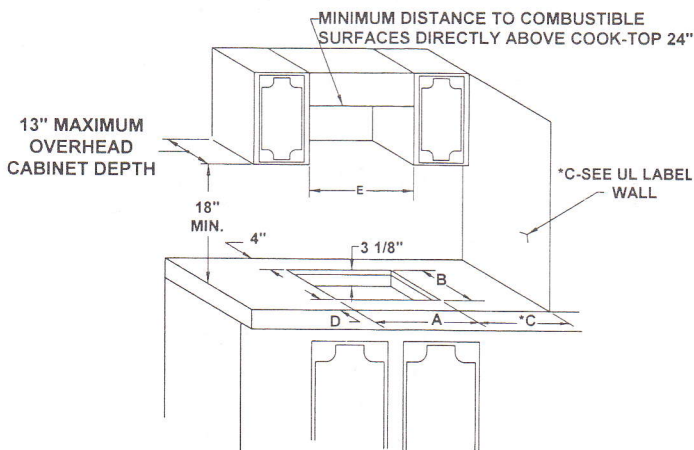

Figure 2
3. Cut-out dimensions illustrated in Figure 2 are as follows: